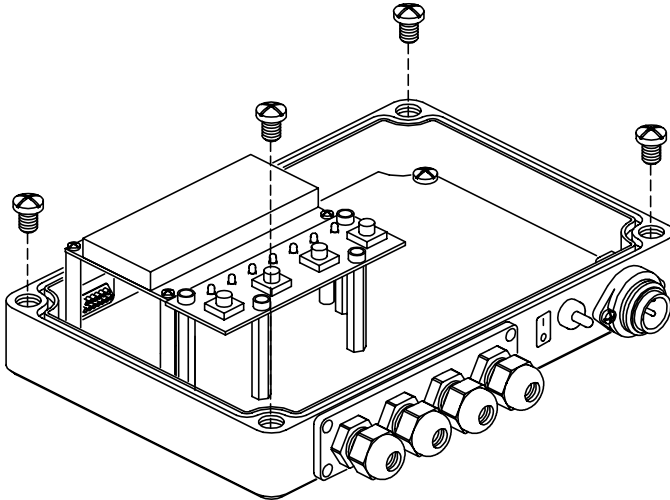

Figure 2.8 - Mounting DP1100
- 2) Align the decoder and insert two appropriate screws (M5 x 35 UNI 6107 or M5 x 40) with their washers and then screw them into the panel or the wall until tight (see figure 2.8).